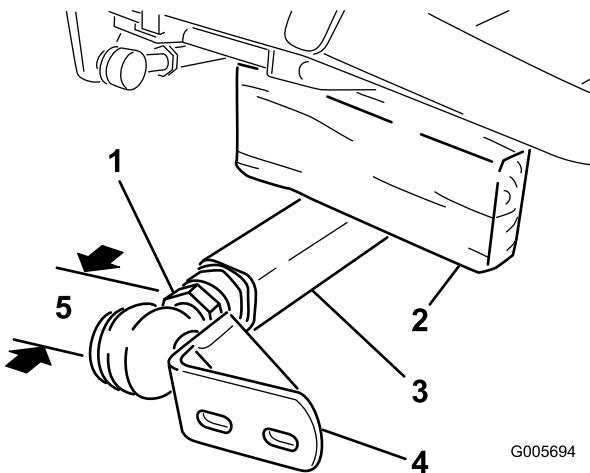

Figure 20
3. Have a helper push down on the left push arm. Then insert a 2 x 4 inch (51 x 102 mm) block of wood between the frame and top of the push arm (Figure 20). Screw ball joint into left hand push arm
until center of ball joint is 2-3/8 inch (60 mm) away from front of push arm (Figure 20). Do not tighten jam nut.